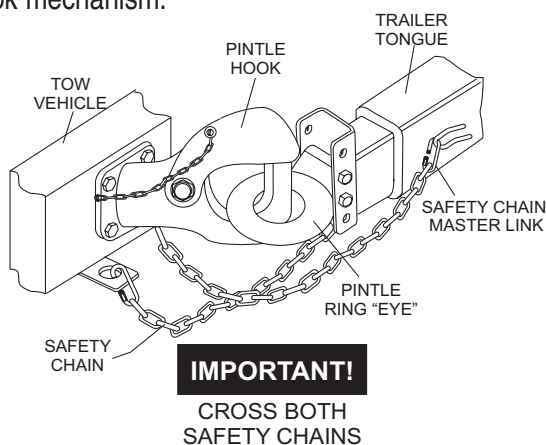

Figure 32. Safety Chain Arrangement for a Bumper Pull Trailer (Pintle Hitch)
- **OPEN** the pintle hook locking mechanism (Figure 32). Place the hook inside the eye coupler. **CLOSE** the pintle hook mechanism.